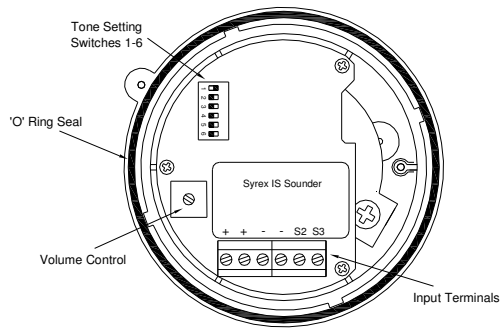

Fig 2 Location of field terminals and controls.
- Fit the required number of 20mm cable glands or conduit entries into the base and connect the field wiring to the appropriate sounder terminals as shown in section 6 and fig 2 of this manual. The power supply terminals + and - are duplicated so that sounders may be connected in parallel, or an end of line monitoring resistor may be fitted.
- Select the required output tone by positioning the six switches as shown in Table 1 and Fig 2.
- Check that the 'O' ring seal is correctly located on the sounder section (see Fig. 2) and insert the sounder section into the base. Push it fully home and turn it clockwise to align the mouldings before tightening the security screw.